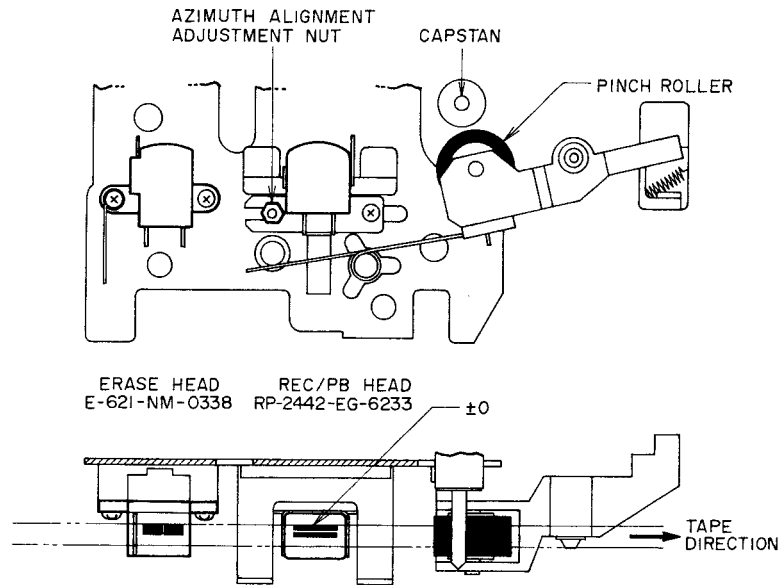

Fig. 12 Head Adjustment (CS-703D)
(Refer to Fig. 12)
- a) Playback a 10 kHz pre-recorded cassette azimuth alignment test tape and adjust nut shown in Fig. 12 to obtain maximum output on both channels.